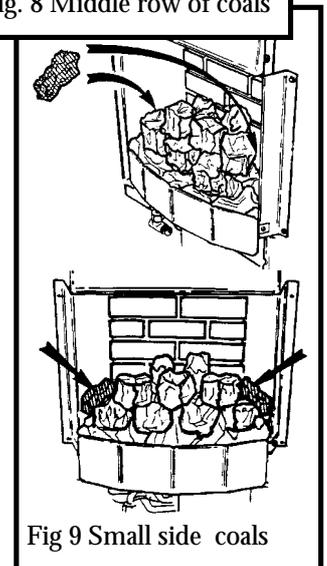

Fig. 9 Small side coals
4.3 Place the two remaining small coals alongside the main coals (See figure 9)